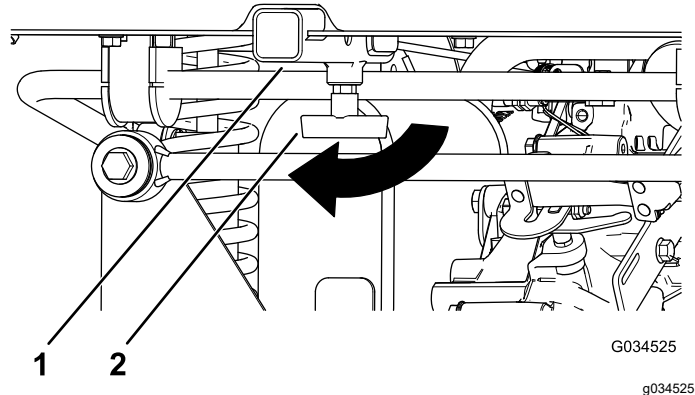

Figure 18
1. Loosen the “T” handle by rotating it clockwise (Figure 18).
2. Insert your accessory into the receiver until the holes align (Figure 18).